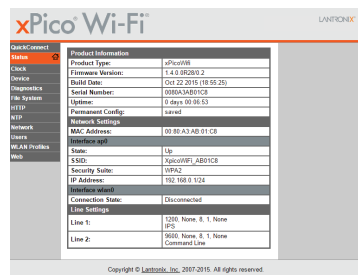

Figure 18: xPico WiFi Main Page
7. The XPico WiFi main page will open. Click on Quick Connect at the top of the menu and select the WiFi network to be used (e.g. H88d3). See Figure 18.